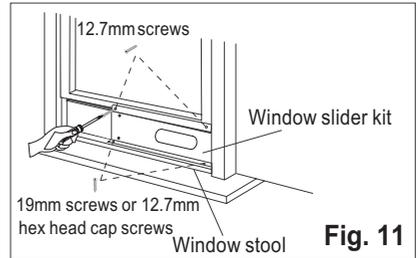

Fig. 11
3. Close the window sash securely against the window slider kit. (Fig. 11)
4. Drive two 12.7mm screws to secure the window slider kit to the window sash. (Fig. 11)
5. Secure the window slider kit to the window sill (Fig. 11):